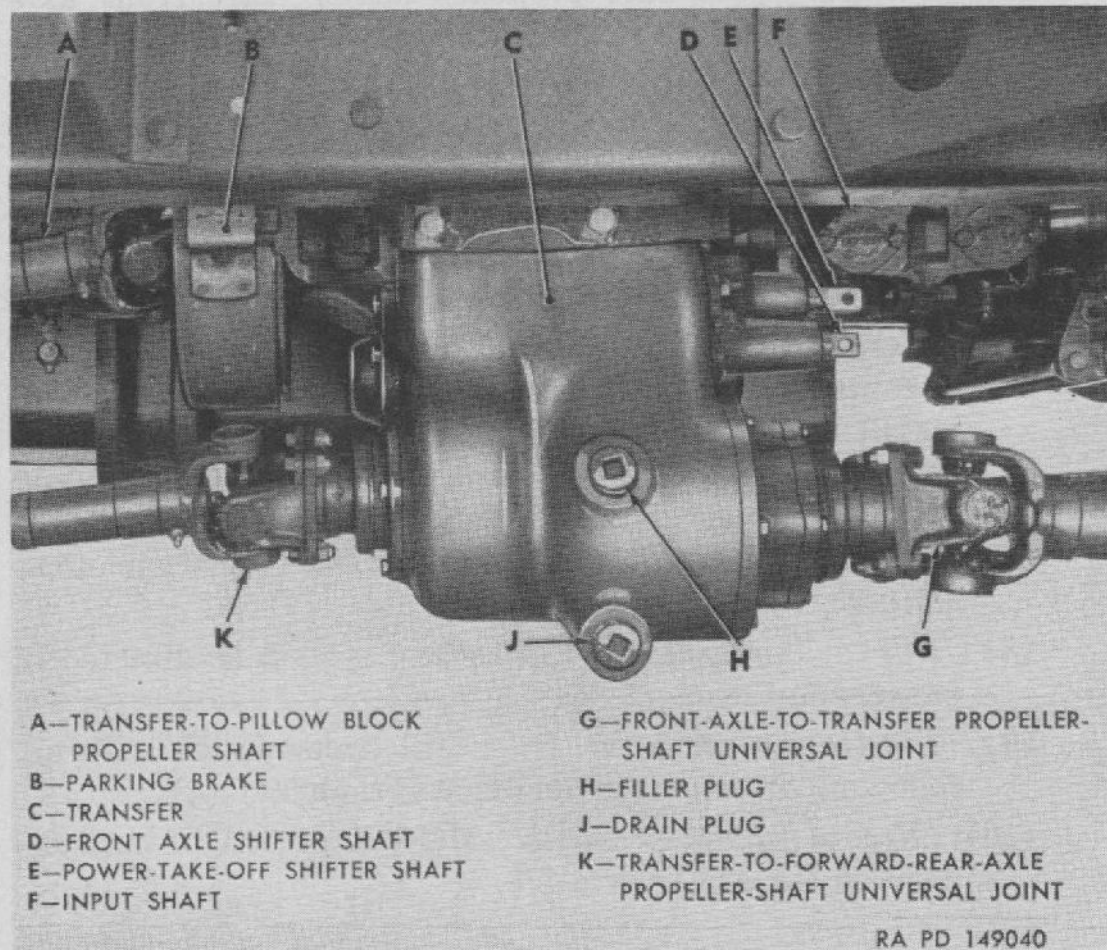

Figure 107. Transfer installed.
a. DESCRIPTION. Transfer is essentially a single-speed auxiliary unit, consisting of a case, gears, and output shafts for transferring power to each of the three driving axles (fig. 107). Mounted on frame cross member directly rearward of transmission, transfer is driven from transmission by a short-coupled propeller shaft. Transfer includes a neutral position for disconnecting axles from power plant when winching (when vehicle is so equipped), and for towing when truck is disabled. Transfer in-
b. DISCONNECT CONTROL LINKAGE. Disconnect control linkage by removing cotter pins and clevis pins from front axle shifter shaft and power-take-off shifter shaft (figs. 107 and 109). If winch is used, disconnect control at power-take-off (par. 190).